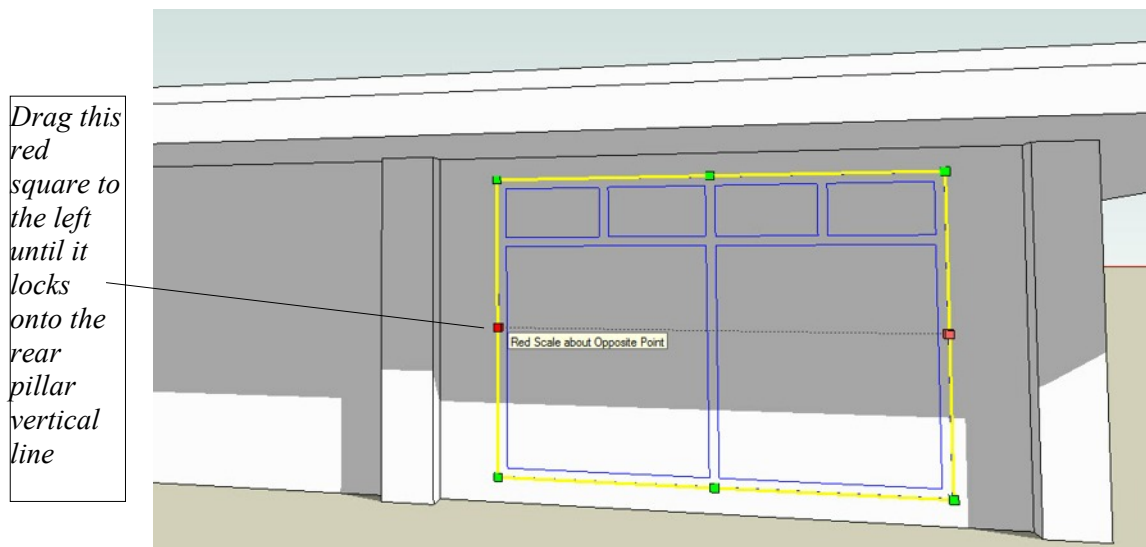

Figure 52. Scaling the window frame between the pillars
- Use **Scale** and click on the left midpoint of the frame at the green square. The square will turn red as shown in Figure 52.
- Repeat this operation on the right hand square and the window will have stretched between the pillars as shown in Figure 52.